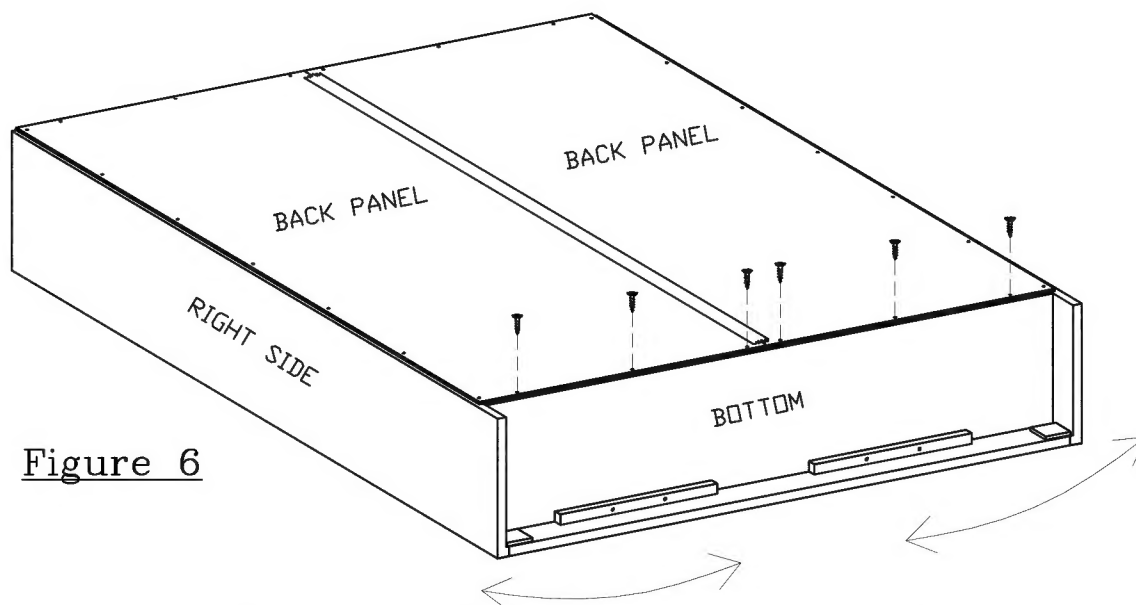

Figure 6
Step 24. Align the bottom corners of the bookcase with the corners of the BACK PANEL. If necessary, slide the corners of the bookcase to the left or to the right. Make sure the BACK PANEL does not go over the sides at the bottom corners. See Figure 6.
Step 25. Insert and screw 6 screws along the bottom edge of the BACK PANEL. See Figure 6.